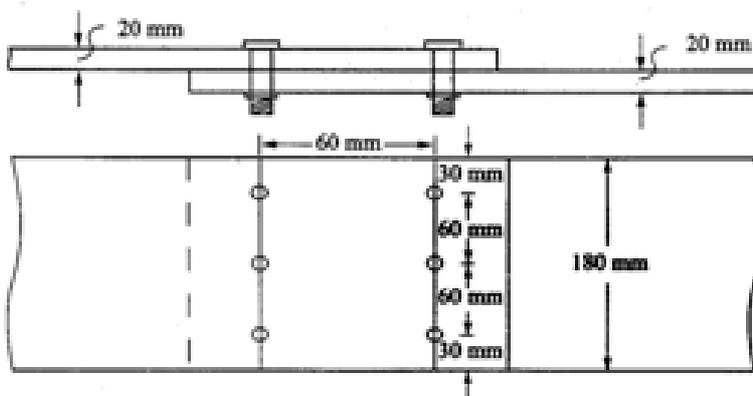

Figure.1
21. Find the efficiency of the lap joint shown in Figure.1. Given M20 bolts of grade 4.6 and Fe410 plates are used. CO1 [K₃]